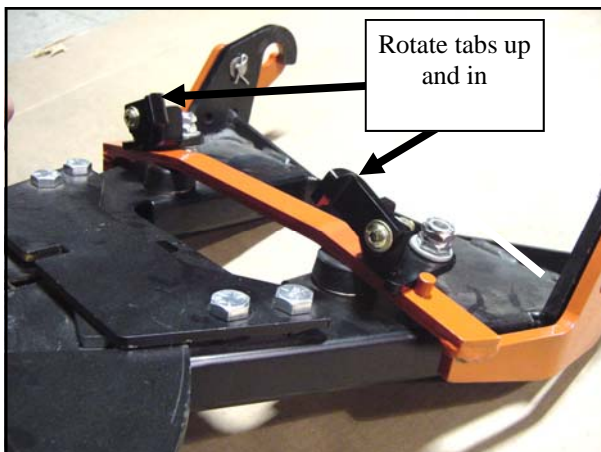

Fig. 9.1—A-Frame secondary locking tabs
- 9.1 The A-frame handle serves two purposes when operated: a) it provides a comfortable grip area to lift the plow into position for mounting, and b) it rotates the lower mount hook into the open position. Per figure 9.1, rotate the secondary locking tabs up and in as shown.